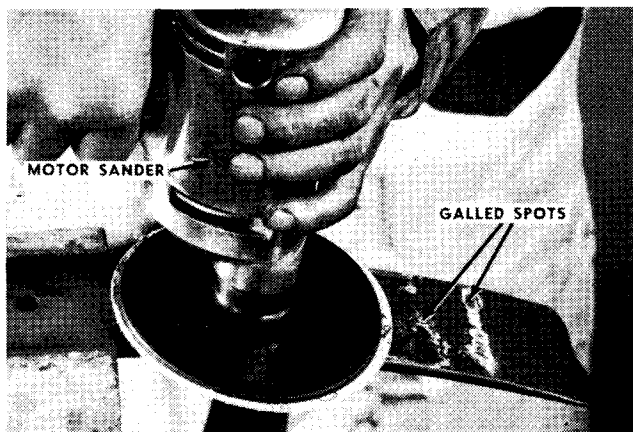

FIG. 3
4. Clean spring leaves; sand or grind off any galled spots. See Fig. 3.